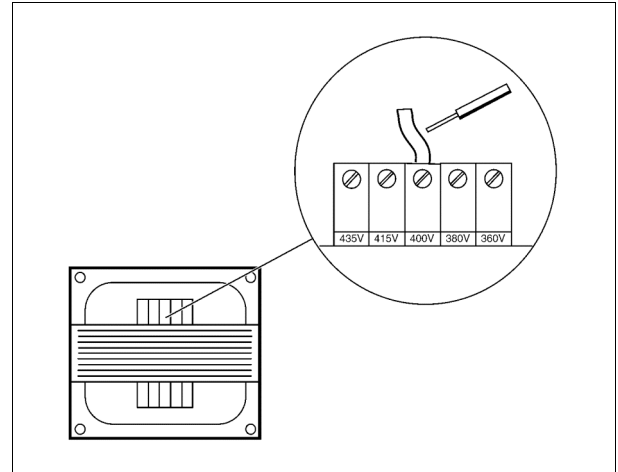

Fig. 20
- Change the control transformer setting. Fig. 20 illustrates an example.